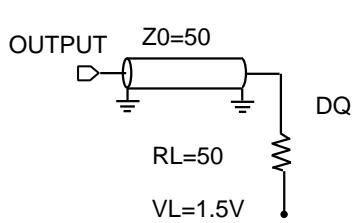
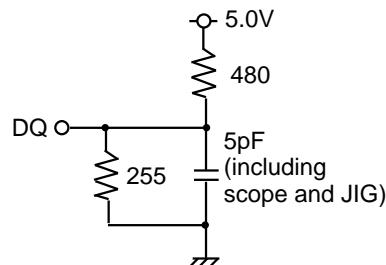

Fig.1 Output load
Fig.2 Output load for  $t_{en}, t_{dis}$
- Output loads ..... Fig.1, Fig.2
4. Transition is measured  $\pm 500\text{mV}$  from steady state voltage with specified loading in Figure 2.